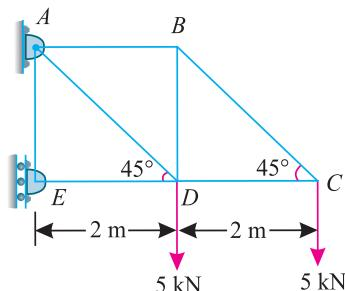

Fig. 13.67.
- 2.** A cantilever braced truss supported on rollers at *E* and hinged at *A* is loaded as shown in Fig. 13.67. Determine graphically or otherwise, the forces in the members of the truss, also determine the reactions at *A* and *E*.